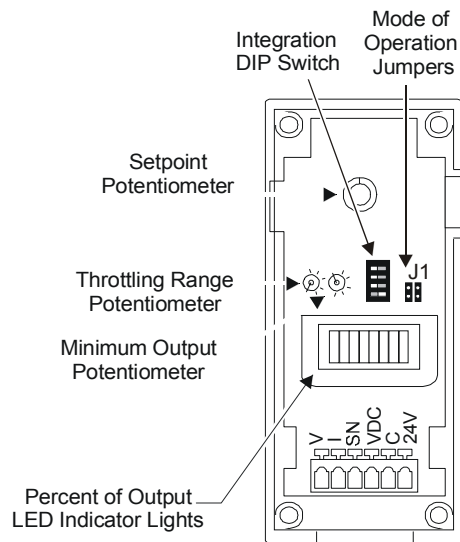
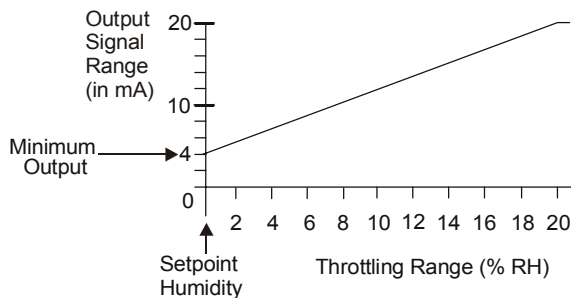

Figure 2: Interior View Showing W351P Control Features
Figure 4: Minimum Output Set to 20% (4 mA) and Throttling Range Set to 20% RH
Example: For a controlled device that responds to a 4 to 20 mA output signal, the minimum output must be 4 mA or 20% of the output range. (See Figure 4.)
The throttling range is adjustable from 2-20% RH. (See Figure 4.) Make adjustments using the potentiometer marked THROT RANGE located on the lower circuit board to the left of the MIN OUTPUT potentiometer. (See Figure 2.)
The W351P Humidity Control uses a HE-67S3-0N0BT or a HE-67S3-0N00P Humidity Transmitter, which is powered by the 12 VDC power supply of the W351P control. Connect the transmitter to the 6-conductor terminal block located at the bottom of the lower circuit board. (See Figure 2.) See *TRUE RH™ Series HE-67xx Humidity Element with Temperature Sensor Installation Instructions (Part No. 24-9527-7 Rev. A)* for more information.
2. Position the jumpers on jumper block J1 vertically for humidification or horizontally for dehumidification. (See Figure 2.) The jumpers are factory-set for humidification.